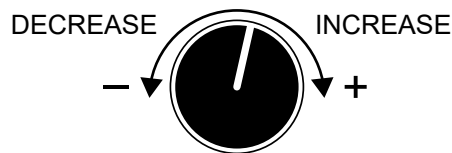

Figure 45. Voltage Regulator
5. If the voltage is not within the specified tolerance, use the **voltage regulator** (Figure 45) to increase or decrease the desired voltage.